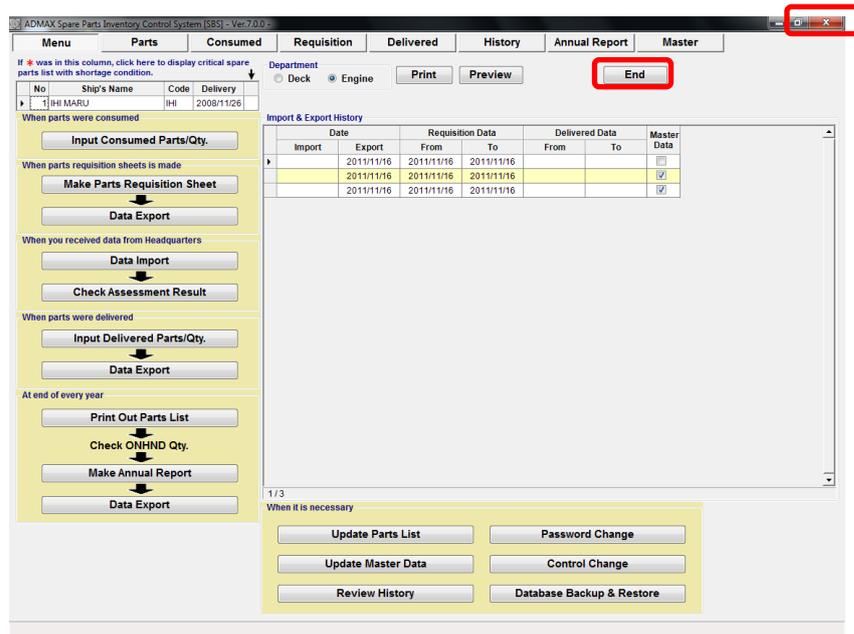

Fig 2.2.3 Menu
5. "Menu Screen"(Fig.2.2.3) is displayed.